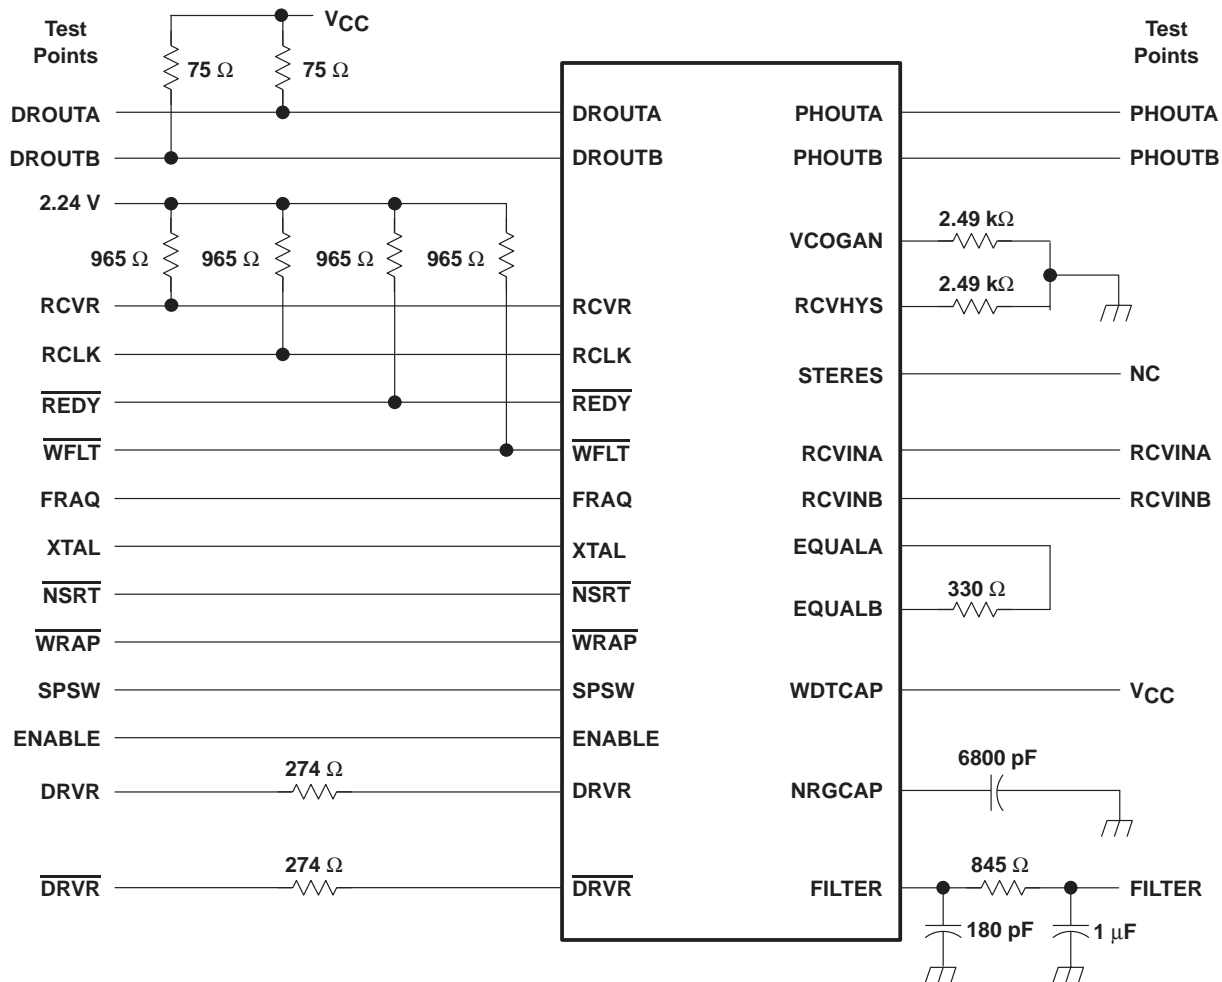
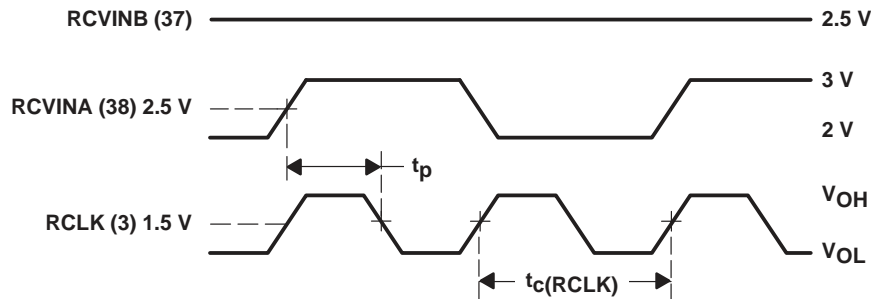

Figure 8. ac Test Circuit
Figure 12. Phase-Detector-Gain Test Timing
transmitter (see Figures 8 and 9)
### RCLK and RCVR (see Figures 8 and 10)
loop parameters (see Figures 8, 11, and 12)
15. The circuit of Figure 8 is used to measure phase-detector gain with  $I_{(FILTER)}$  injected at the filter test point. Figure 12 shows the relevant timing. With the TMS38054 in phase lock, the propagation delay ( $t_p$ ) between RCVINA positive transition and RCLK negative transition is measured. A value  $t_{p1}$  is seen when  $I_{(FILTER)} = I_{(FILTER)1}$ , and a value  $t_{p2}$  is seen when  $I_{(FILTER)} = I_{(FILTER)2}$ . The phase-detector gain is then calculated as  $(I_{(FILTER)2} - I_{(FILTER)1}) \div (t_{p1} - t_{p2})$ . The result is in  $\mu A/ns$  (see external filter section).
### data recovery (see Figures 8 and 13 and Note 16)
energy detect ( $\overline{\text{REDY}}$ ) (see Figure 8 and Note 17)